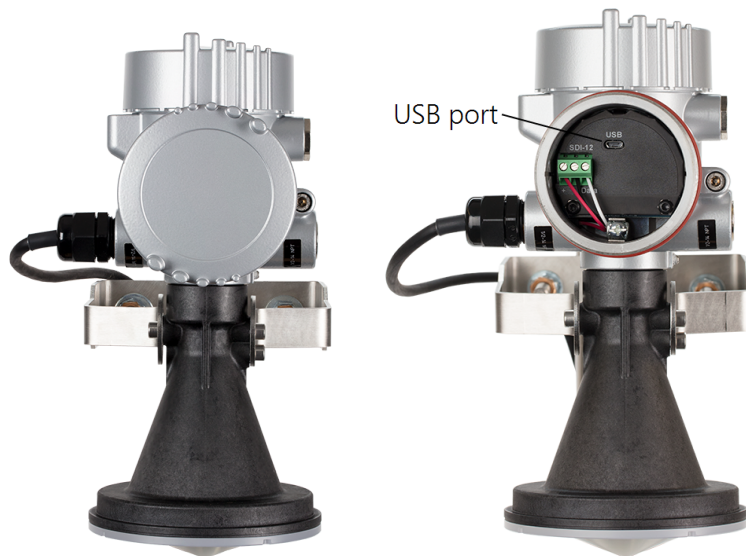

FIGURE 8-1. CS475A with end cap and side cap in place (left). Exposed connectors once the side cap is removed (right).
1. Open side compartment of the sensor by unscrewing the side cap (FIGURE 8-1 (p. 18)).